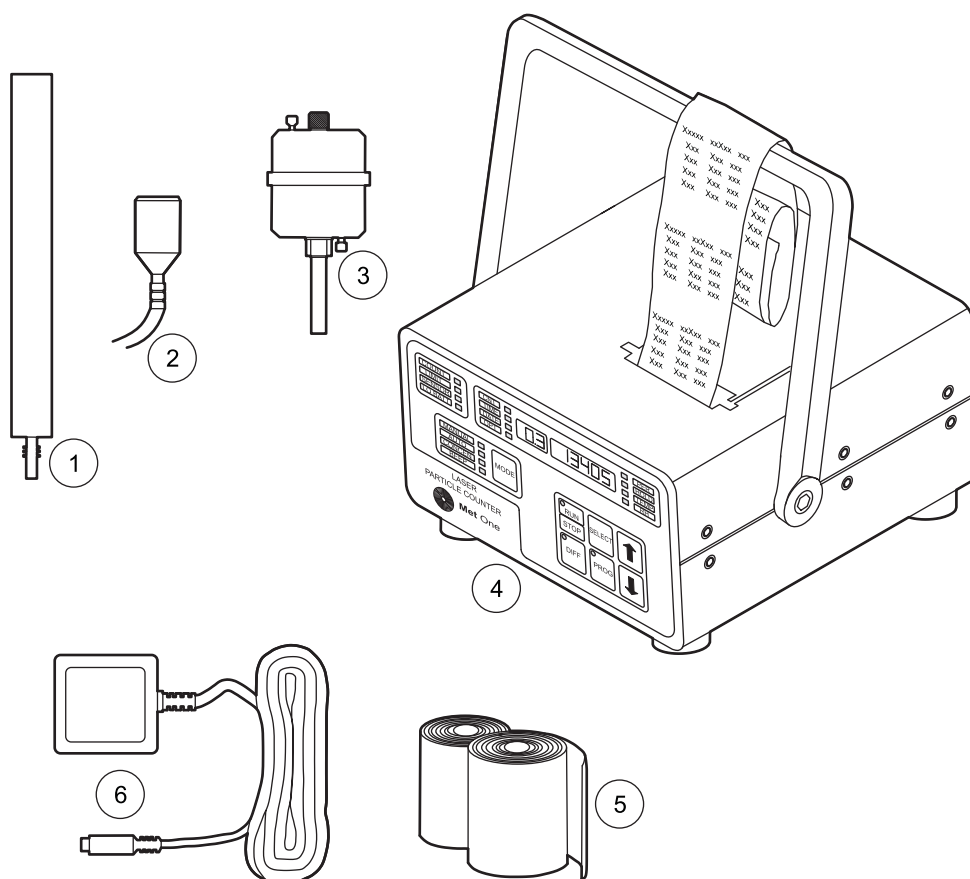

Figure 3 List of packaged items
Remove the components from the shipping container and inspect for damage. Verify that all items listed in Figure 3 are included. If any items are missing or damaged, contact the manufacturer or sales representative.
The isokinetic sample probes are used for accurate air sampling in particle counting applications. The isokinetic probe (refer to Figure 3 on page 9, item 1 or item 2) is used in the laminar air flow for a flow rate of up to 100 feet per minute.
The purge filter (refer to Figure 3 on page 9, item 3) is used for maintenance (purge and zero count) of the MET ONE 237 particle counter. The purge filter permits direct sampling of pressurized air at pressures ranging from 30 to 150 psi.
The AC adapter (refer to Figure 3 on page 9, item 6) is used to charge the internal battery and use the MET ONE 237 particle counter with a standard 115 VAC outlet.